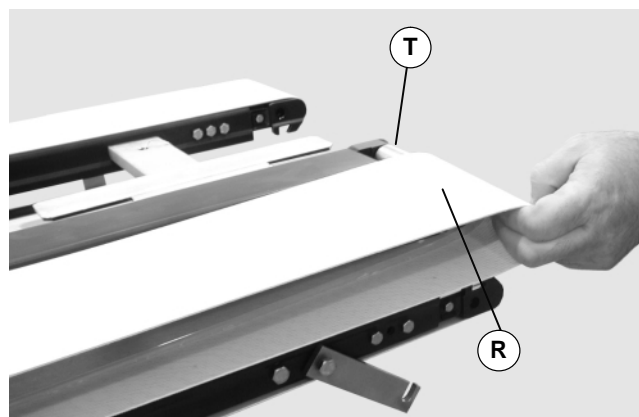

Figure 10
3. Loop belt (R of Figure 10) on idler end pulley(T).